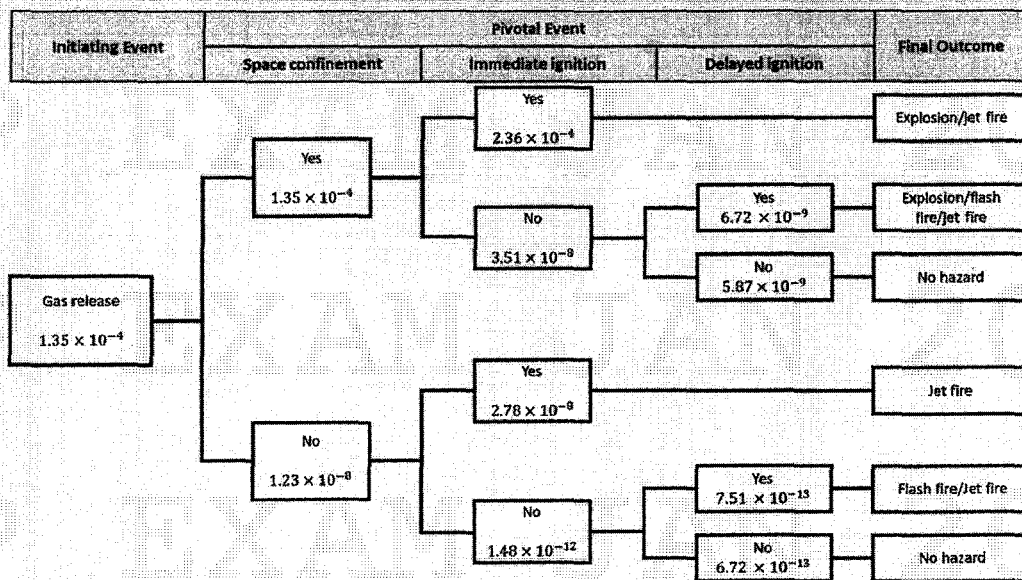

FIGURE Q4
- b. **FIGURE Q4** shows the event tree analysis (ETA) for natural gas pipeline leakage. The initiating event for the ETA is "Gas release".